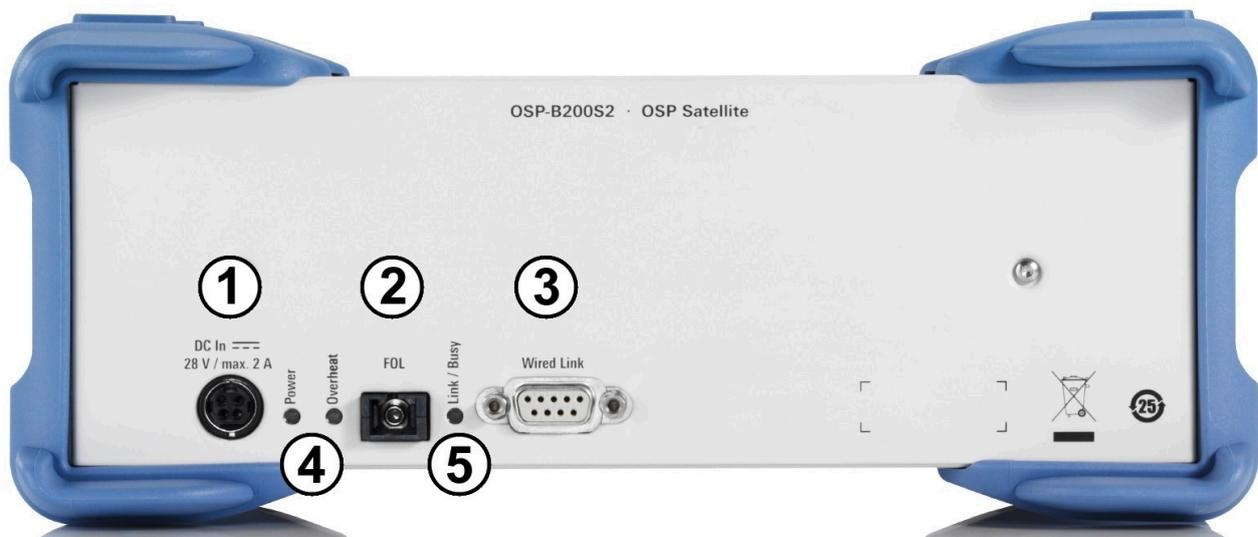

Figure 5-10: Rear view of the R&S OSP-B200S2 (2HU)
The link connectors (labeled (2) and (3) in Figure 5-10) allow choosing either an electrical or an optical control connection.